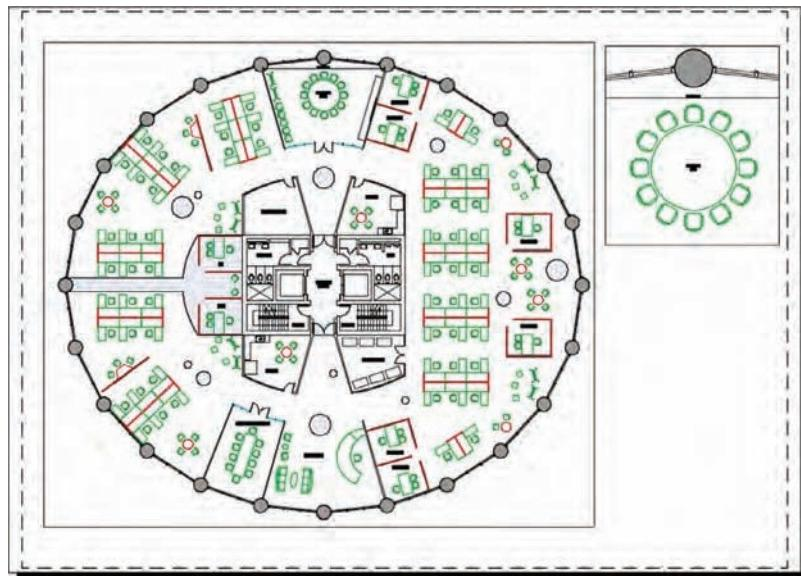

**FIGURE 13.19** The drawing fits the paper at 3/16" scale (or 1:50 in metric).
8. Double-click the paper outside the viewport to switch back into paper space. Select the viewport and grip-edit it so that it closely surrounds the plan geometry. Move the plan to the left on the paper to make room for another drawing on this layout. Figure 13.19 shows the result.